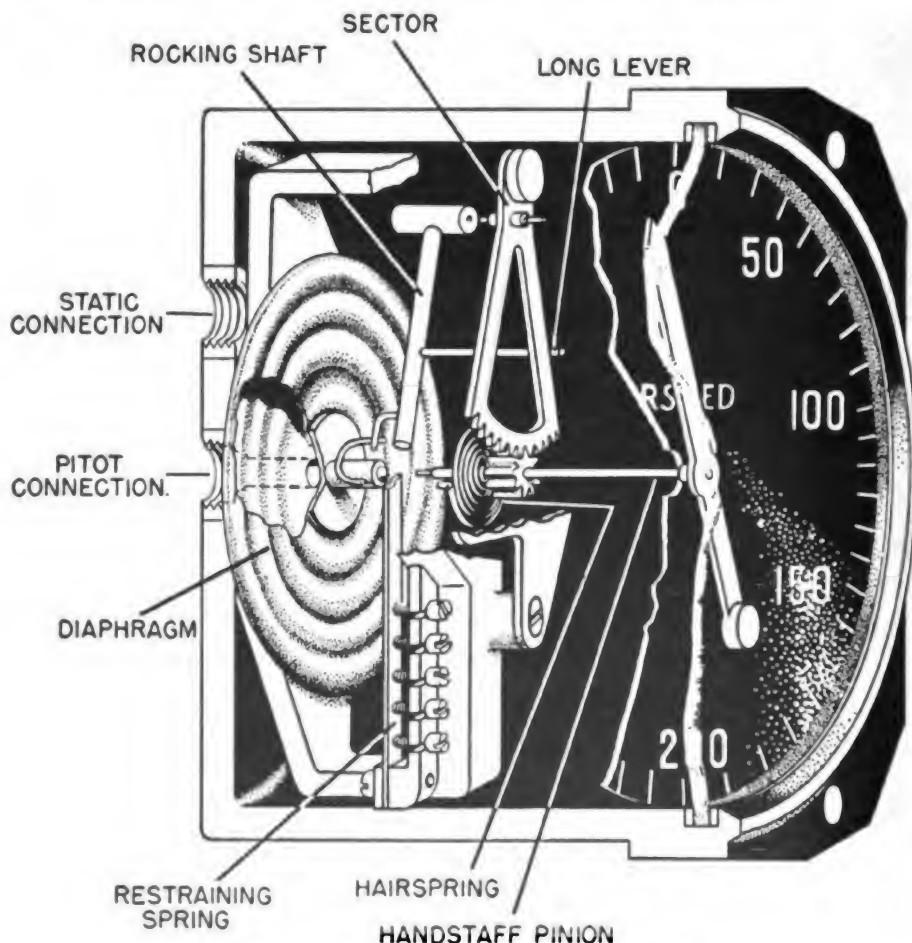

Figure 27.—Mechanism of an airspeed indicator.
ward speed of the airplane is led from the pitot tube into a **DIAPHRAGM CAPSULE** inside the instrument case. Air at undisturbed atmospheric pressure is led from the static tube into the case itself. The difference between these two pressures, therefore, depends on the forward speed of the airplane, and is measured by the expansion and contraction of the capsule. In figure 27 you can see the working parts of a typical airspeed indicator. The connections (P) and (S) are for the pitot line and static line, respectively. The capsule (A) in center of illustration is linked to the pointer mechanism by a system of levers and gears. The case (K) is airtight except for the static line connection.